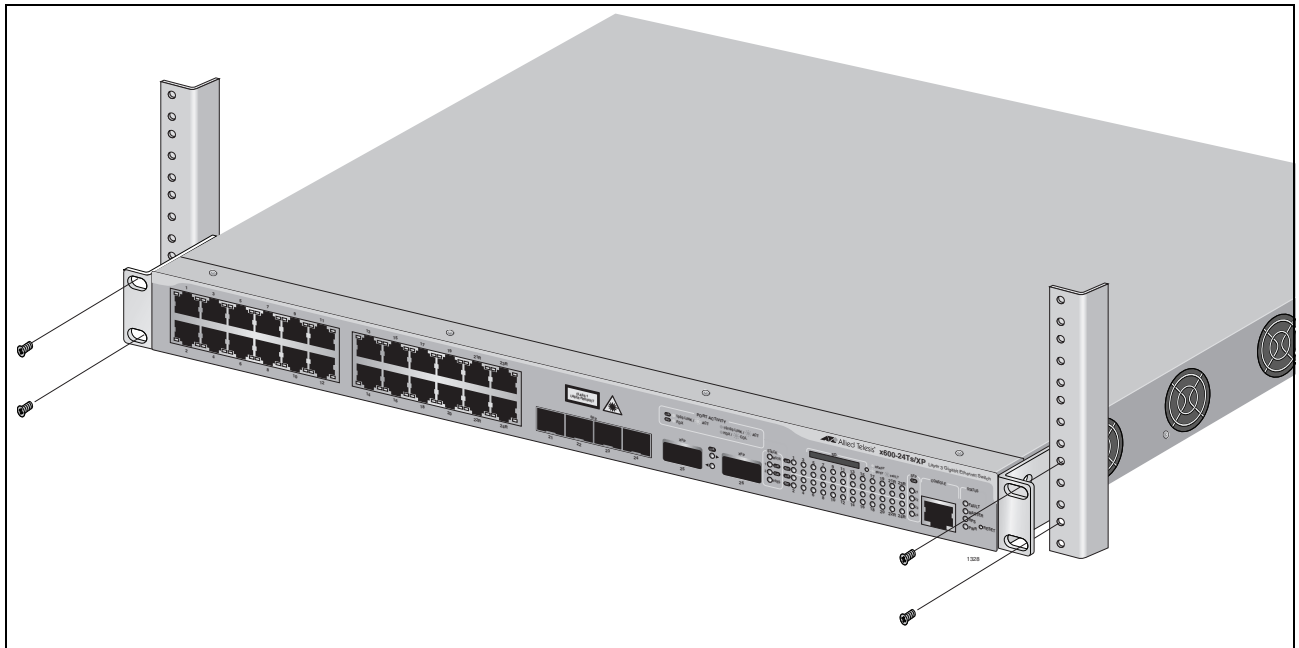

Figure 20. Mounting the Switch in a Rack
6. Mount the switch in a 19-inch rack using standard screws (not provided), as shown in Figure 20.